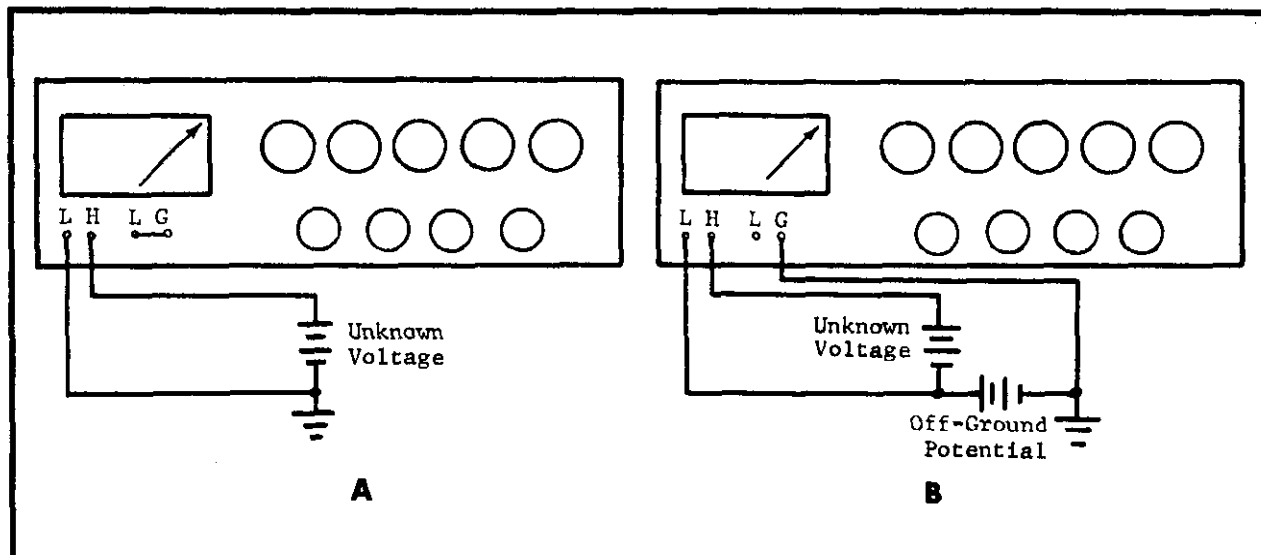

FIGURE 4. Input Connections to Model 660. The two diagrams show the input circuit for measuring at ground and for floating.
2. Connect the unknown voltage to the input terminals, using the LO terminal for the low impedance terminal of the unknown. Refer to Figure 4.